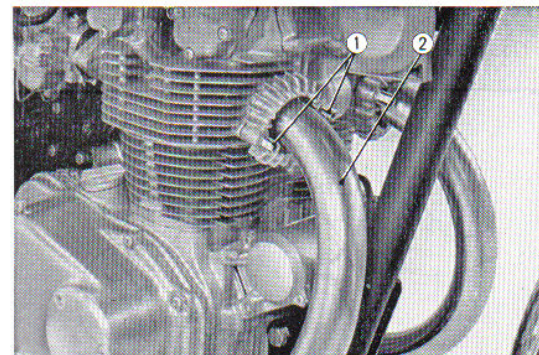

Fig. 4.54 Installing the exhaust pipe
2. After completing the muffler installation, tighten the exhaust pipe joint nut. (Fig. 4.54)